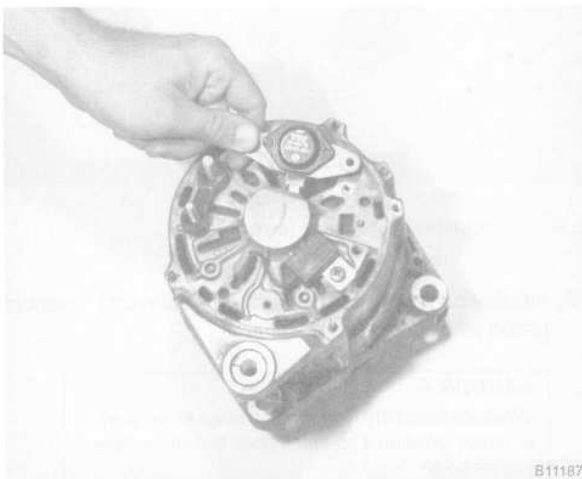

Fig. 6. Voltage regulator being removed.
3. Remove voltage regulator mounting screws and remove regulator from alternator. See Fig. 6.